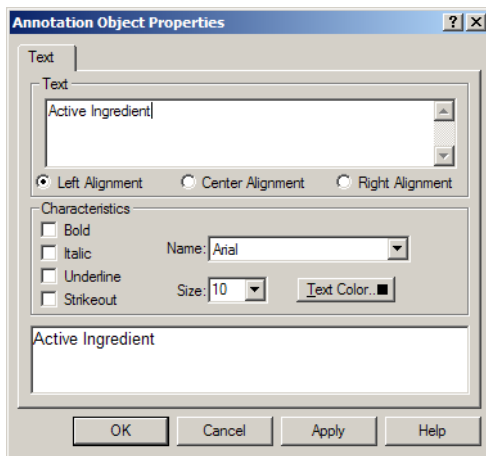

Figure 2-21 Annotation Object Properties Dialog Box for Text
3. Click the area of the plot where you want to add text to open the Annotation Object Properties dialog box (Figure 2-21).